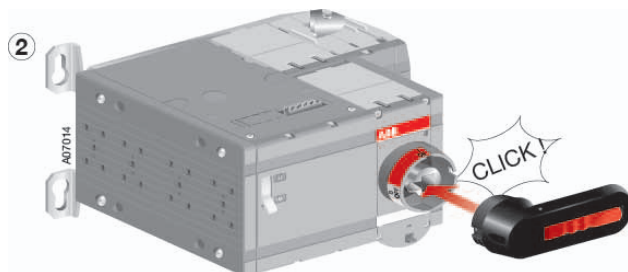

Figure 6.6 Attaching the handle
- Attach the handle by pressing it to the switch panel until it clicks into place, see Figure 6.6. You can attach the handle in both positions (I or O).